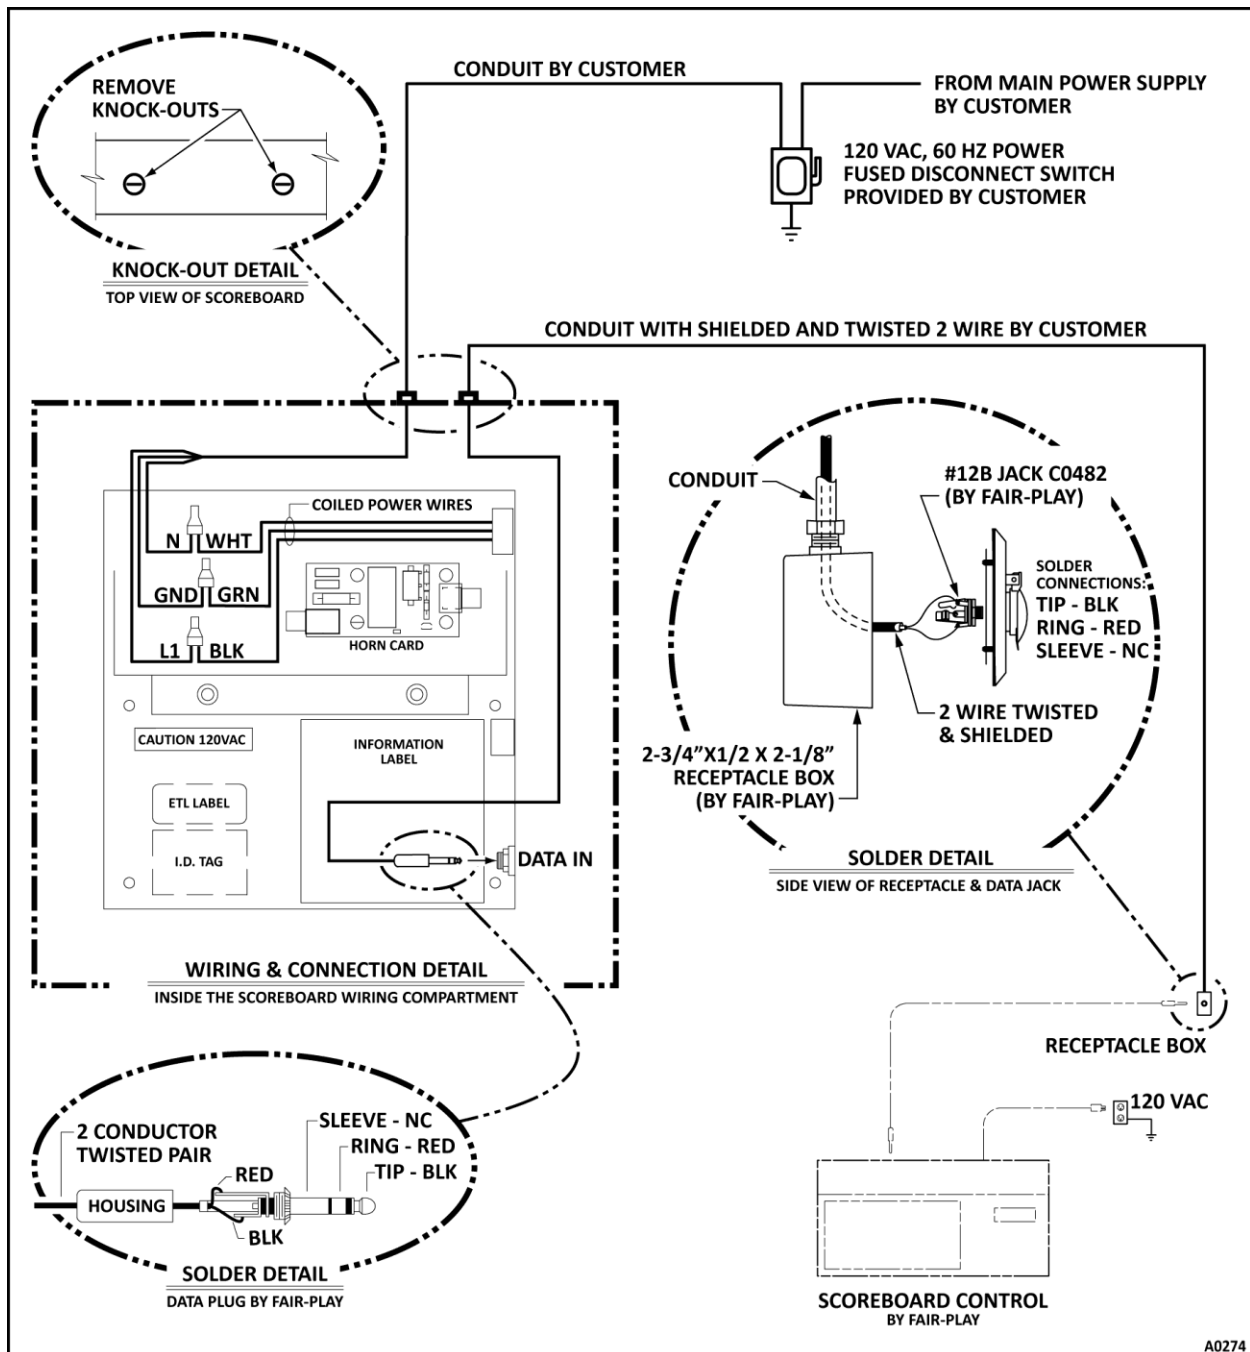

FIGURE 15 – SINGLE-SIDED: SCOREBOARD POWER & DATA CONNECTIONS
3. **POWER** – refer to Figure 15 on page 13.
4. **DATA** – refer to Figure 15 on page 13.